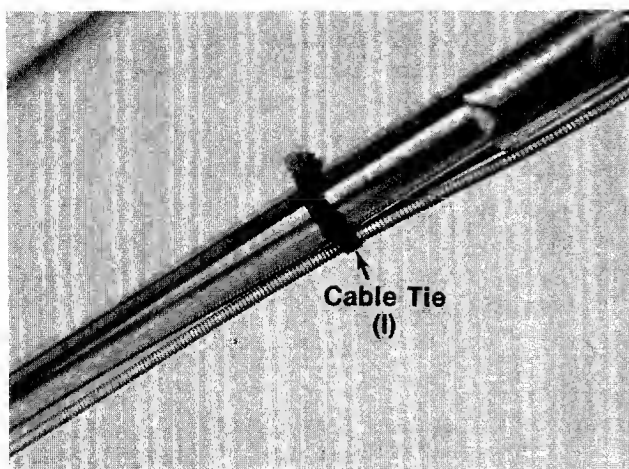

FIGURE 10.
9. Secure throttle control cable and brake cable to upper and lower handles with cable ties (I). See figure 10.